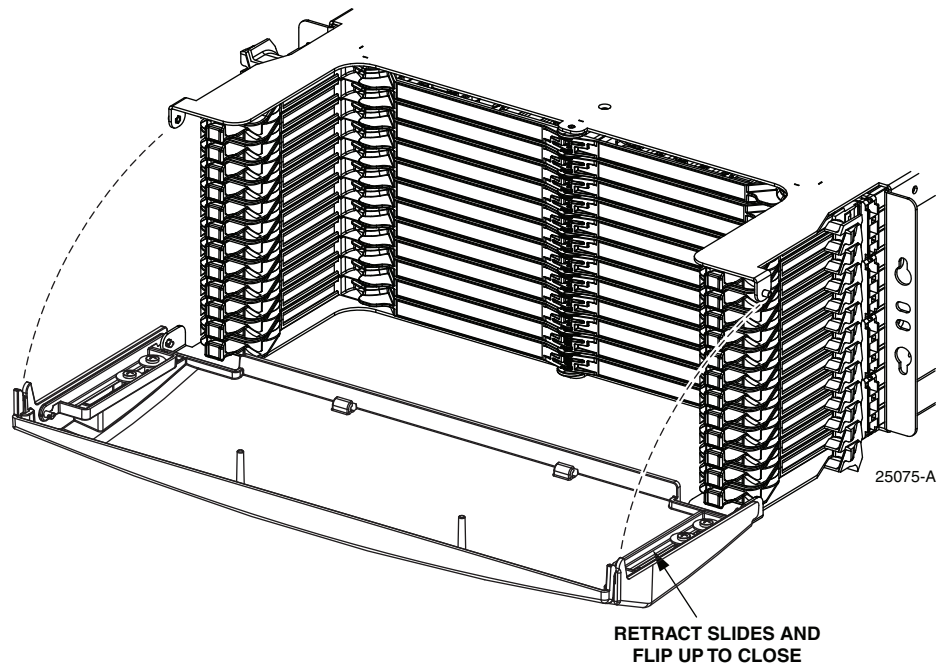

Figure 5. Closing Door
2. Retract the slides and flip up the door to snap the door into a closed position as shown in Figure 5.
Retract the slides and flip up the door to snap the door into a closed position as shown in Figure 5.